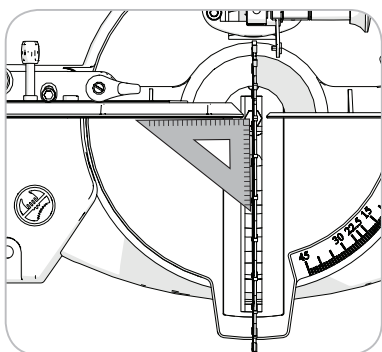

Fig. 13
- Place a Set Square on the table with one short edge against the Fence and the other short edge against the Blade (avoiding the TCT tips). **(Fig. 13)**